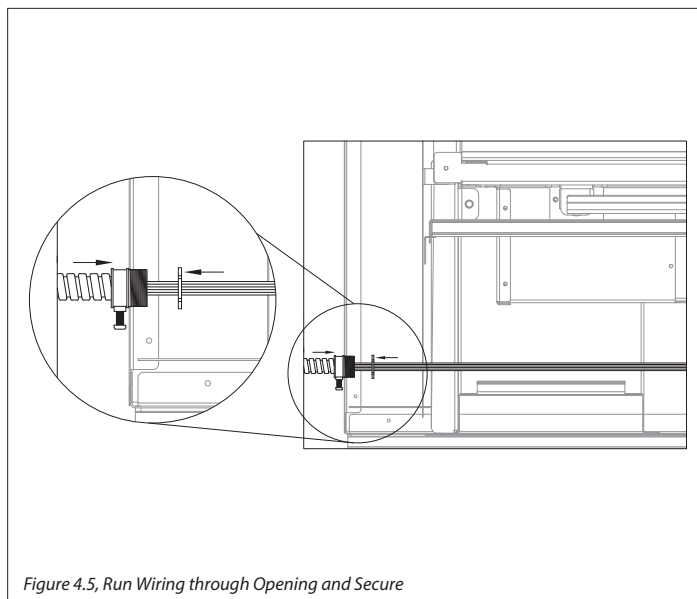

Figure 4.5, Run Wiring through Opening and Secure
2. Run the loose wiring through the larger section of the opening until you reach the start of the flexible conduit. Unscrew the nut from the conduit end and slide the conduit end into the smaller section of this opening. Screw the locking nut back on the threads of the conduit securing it to the fireplace. See Figure 4.5.